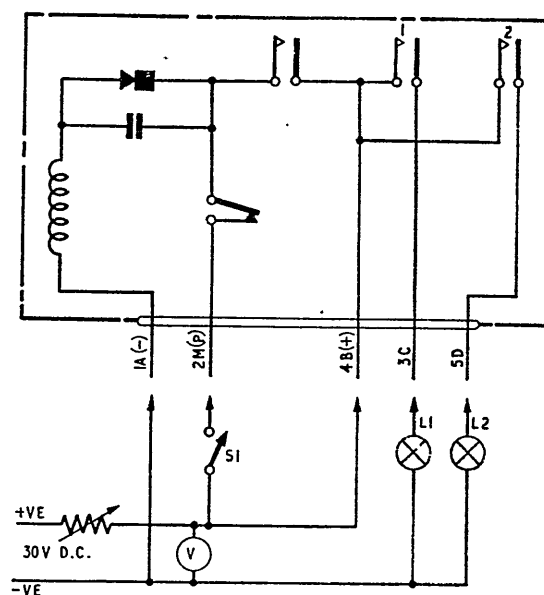

Fig. 1. Switch, Type D8402, circuit diagram and test circuit
1. This time delay switch has two pairs of circuit contacts, the circuit diagram (fig. 1) shows the switch internal wiring and the associated test circuit. The total motor run and circuit contact timing is detailed in para. 3.